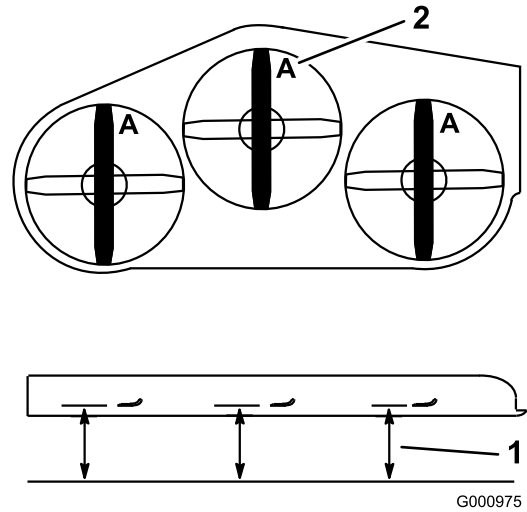
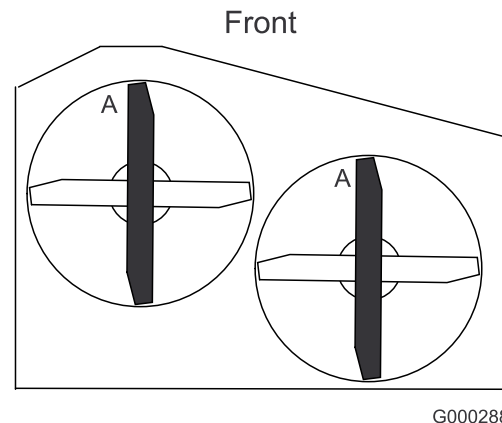

Figure 55
Figure 56
3. Rotate the blades until the ends face forward and backward. Measure from a level surface to the cutting edge, position A, of the blades (Figure 55). Note this dimension. For 36 inch mower decks use Figure 56.